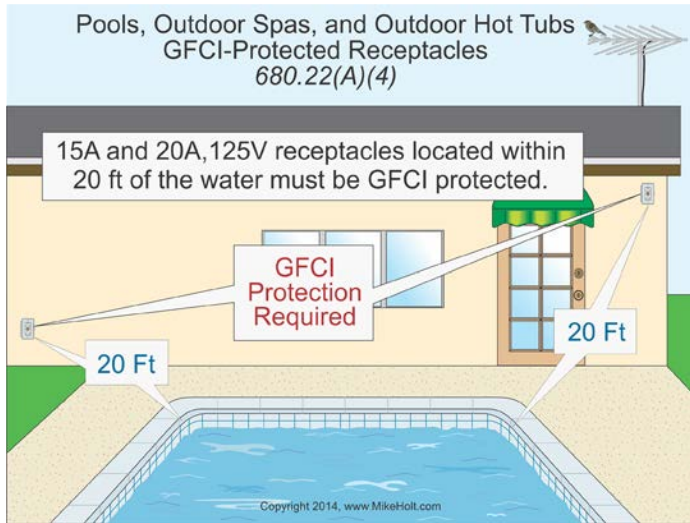

Figure 680-25
(4) GFCI-Protected Receptacles. 15A and 20A, 125V receptacles located within 20 ft from the inside walls of a permanently installed pool, outdoor spa, or outdoor hot tub must be GFCI protected. Figure 680-25